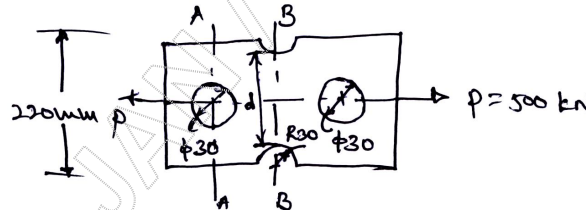

Fig.Q2(b)
- b. A bar of rectangular section is subjected to an axial pull of 500kN as shown in Fig.Q2(b). Calculate its thickness if the allowable tensile stress in the bar is 200MPa.